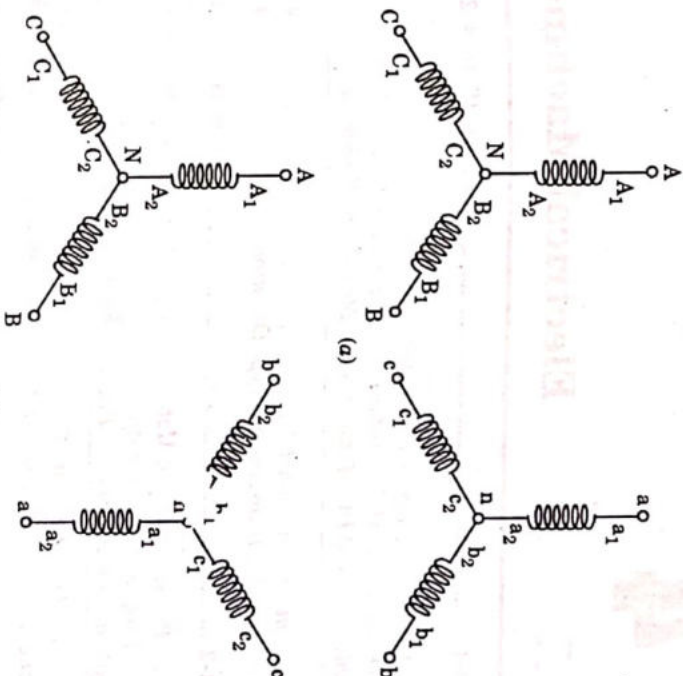

Fig. 3.21.1. Star-star connection of transformer
1. Fig. 3.21.1 shows the Y - Y connection of three identical single-phase transformers or the three identical windings on each of the primary and secondary sides of the 3ϕ transformer.